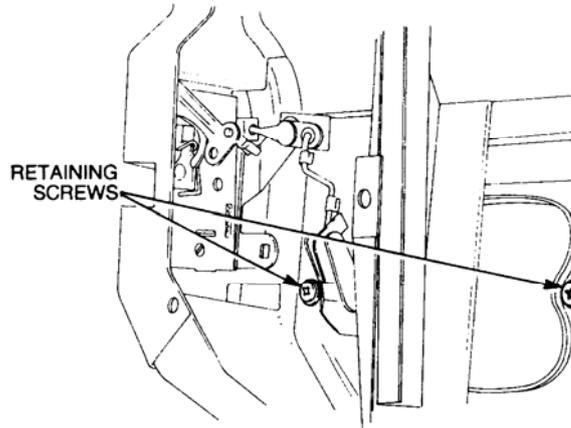

Figure 29 Rear Side Door Lock Removal
- cc. Remove the countersunk screws securing the lock assembly to the door (refer Figure 29).
- u.** Install the door lock assembly in the door frame (refer Figure 29).